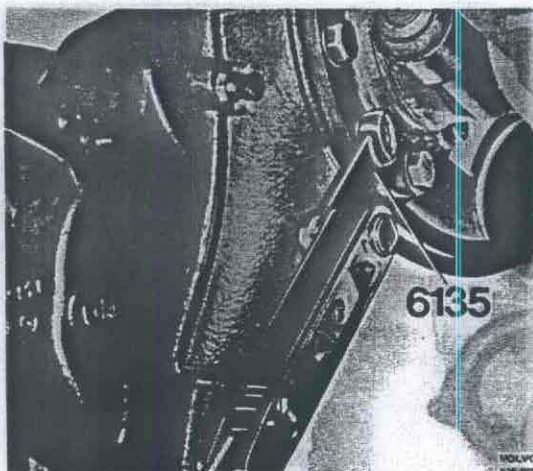

Fig. 46-31. Tighten the nuts
5. Fit the bolts round the front axle casing. Remove the guide pins. Tighten the bolts to a torque of 100–120 Nm (10–12 kpm = 72–87 lbftf). Use 6135, see Fig. 46-31. Remove the jack.